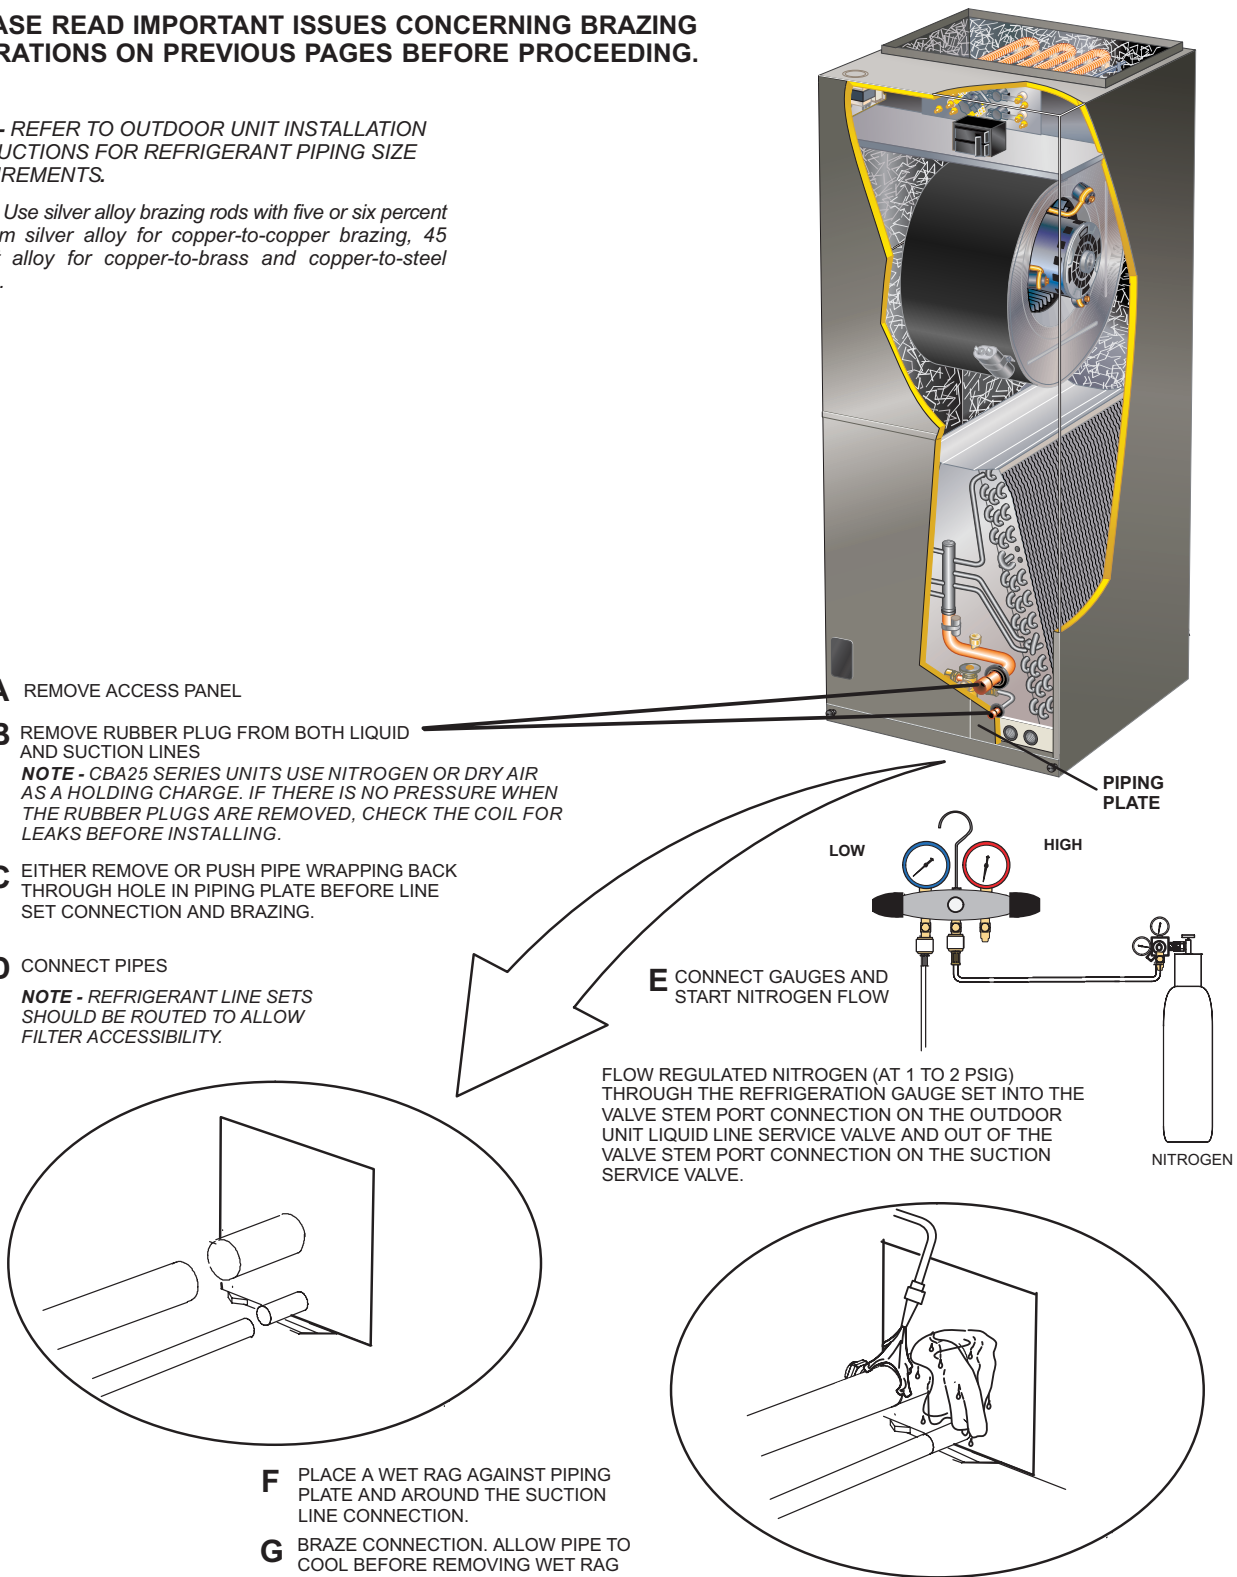

FIGURE 13. Brazing Connections
- 4 - Connect the suction and liquid lines to the evaporator coil. Take care to protect the cabinet and internal components as detailed in figure 13.